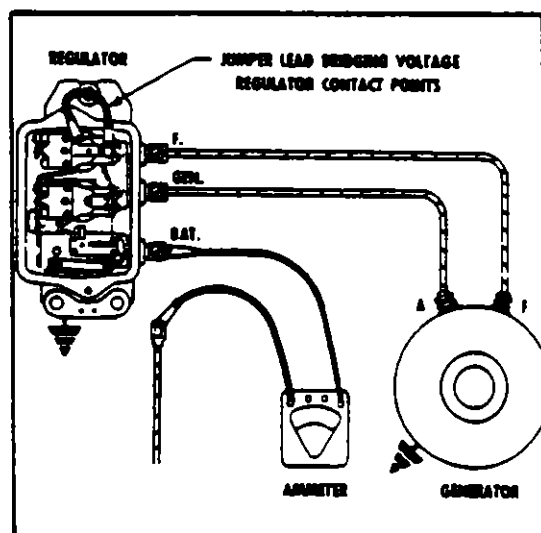

FIGURE 9-14. CHECKING CURRENT LEAD METHOD, JUMPER LEAD METHOD
a. Connect ammeter into charging circuit, as in Figure 9-14.
b. Connect jumper lead across voltage regulator points, as in Figure 9-14.